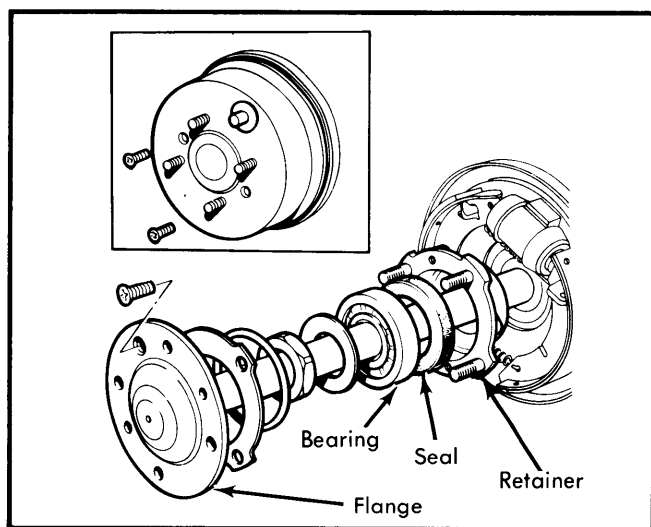

Fig. 1 View of Midget Half-Shaft
3) Using tool 18G-191, adjust dial indicator to zero on machined step "A" of setting block (See Fig. 1). Place dial indicator and base of tool on head of pinion and position tool so dial indicator feeler rests on center of differential bearing bore. Note any variation from zero. Now swing indicator to other bearing bore and again note variation from zero. Average the two variations together.